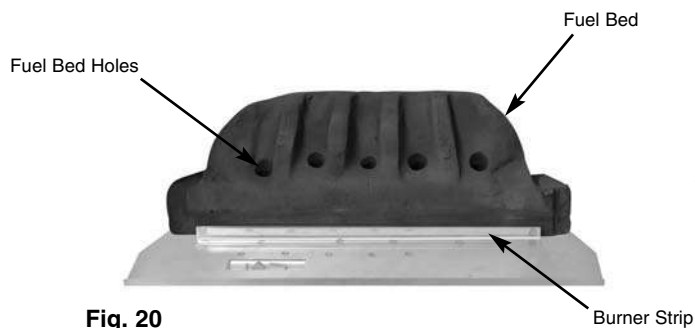

Fig. 20
1. Place the main fuel bed on to the back section of the metal burner tray. It is important that the front edge of the fuel bed is located behind the burner strip, and the holes in the fuel bed line up with the holes in the Burner tray (Fig. 20).